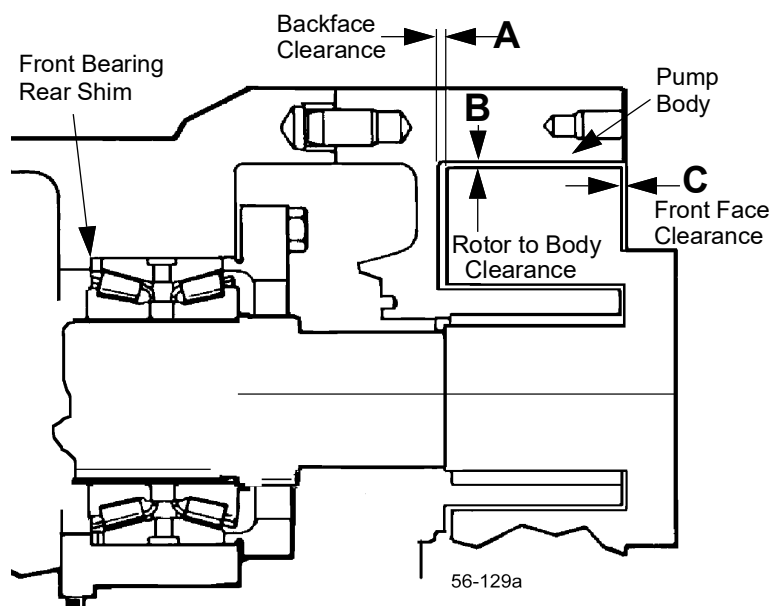

Figure 64 - Clearance Measurements
2. With feeler gauges, measure the rotor backface clearance (Figure 64, item A), through the port or from the front.
3. Measure the rotor front face clearance (Figure 64, item C).
4. Measure the rotor to body clearance (Figure 64, item B).